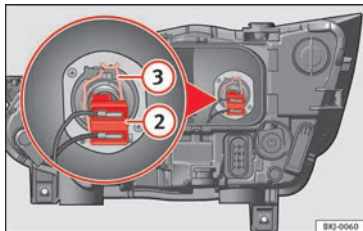

Fig. 115 In the engine compartment: dipped beam headlight.
- Remove the bulb connector » **Fig. 115** ②.
- Unclip the retainer spring » **Fig. 115** ③ pressing inwards to the right.